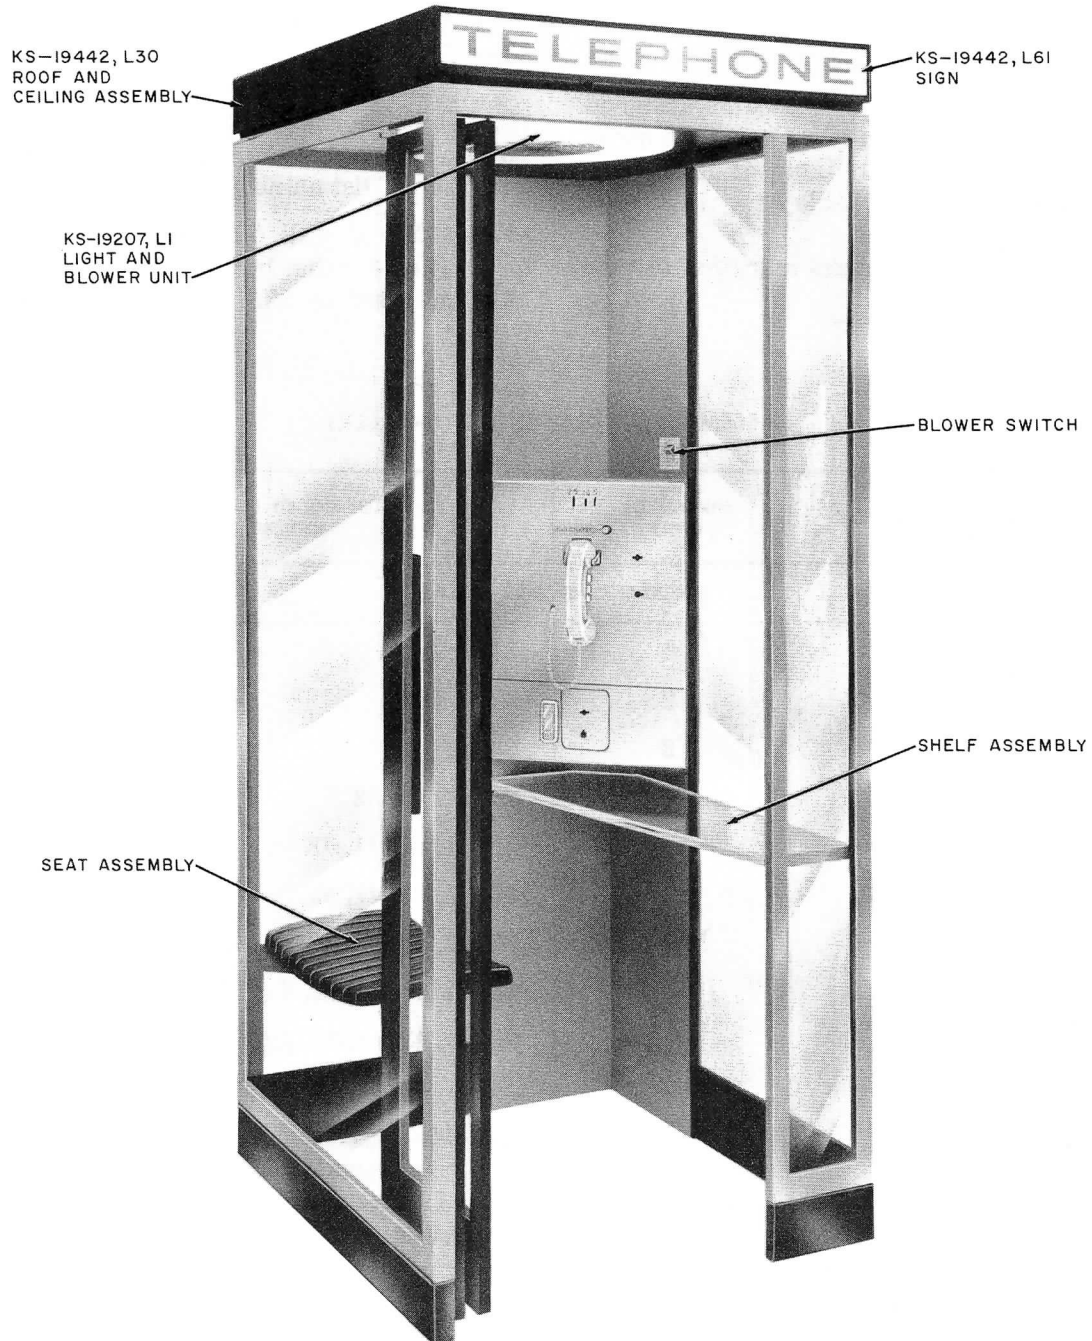

Fig. 1 — KS-19442 Deluxe Telephone Booth
1.02 This booth is a deluxe type unit designed for sit-down service (Fig. 1). It is of metal and glass and may be used singly or in various multiple arrangements. See Table A.
2.05 A formed plastic seat and a thick-tempered glass writing shelf (Fig. 1) are furnished as part of the booth. Stainless steel panels are mounted in the right rear corner. These panels provide a mounting for the backboards for a 1A, 2A, or 235G-type coin telephone. See Table B.
2.06 A KS-19207, List 1 light and blower unit (furnished as part of the list 30 roof and ceiling assembly) is supplied with each booth for ventilation and illumination. A door-operated snap switch is used to control the light and blower; however, the unit may be wired for continuous illumination. A manual switch is provided for customer control of the blower (Fig. 1). See Section 508-820-100 for details of KS-19207 light and blower unit.